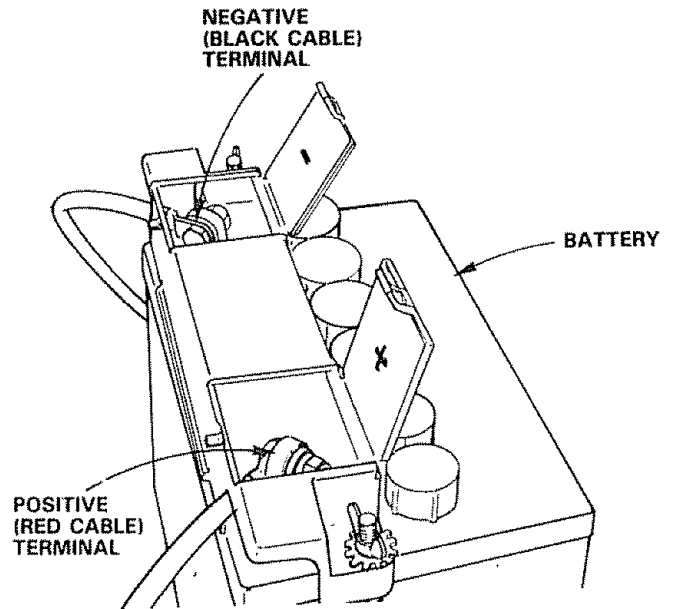

FIGURE 29
- Connect each end of the RED cable to the POSITIVE (+) terminals of each battery (taking care not to short against chassis). (Fig. 29).